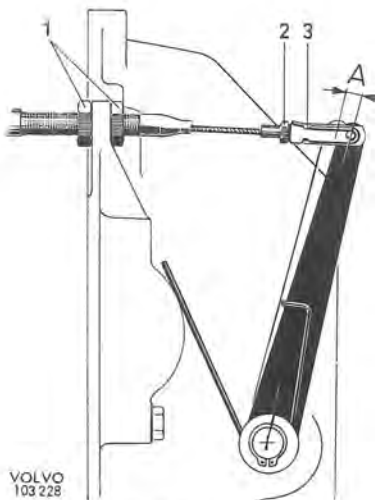

Fig. 4-3. Release lever play
Correct clutch pedal play is obtained by adjusting the release lever so that on left-hand steered vehicles a play of 4—5 mm (0.16—0.20"), A in Fig. 4-3, is obtained. Play is adjusted by unscrewing or screwing in the fork (3) on the clutch wire. If this adjustment is insufficient,